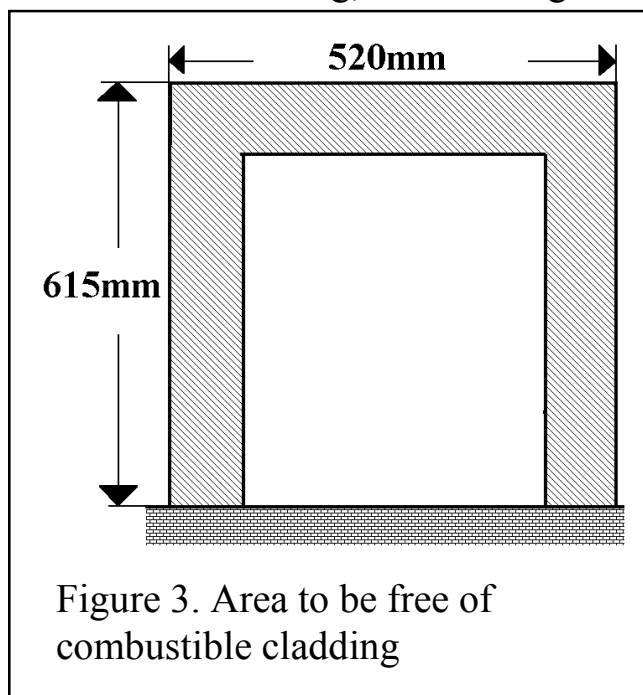

Figure 3. Area to be free of combustible cladding
**4.14** If the fire is to be fitted against a wall with combustible cladding, the cladding must be removed from the area shown in figure 3.